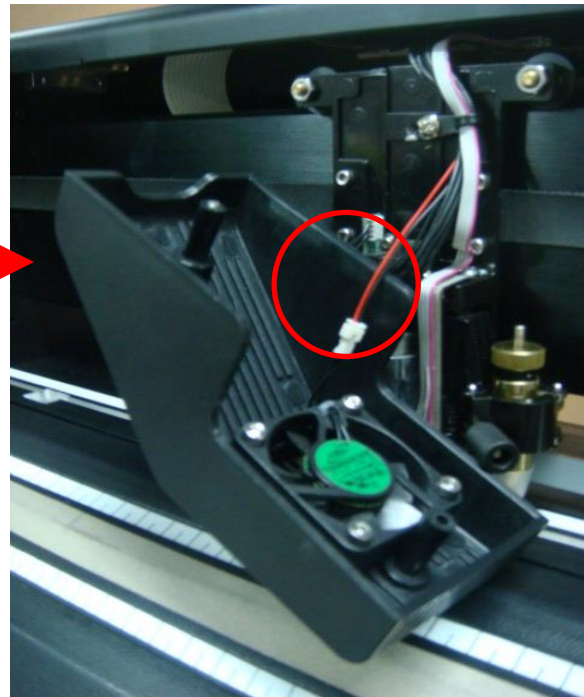

Figure 2-33
Step 2 Manually disassemble the Cover, which will still be connected to the Tool Carriage through wires (Figure 2-33 and 2-34).